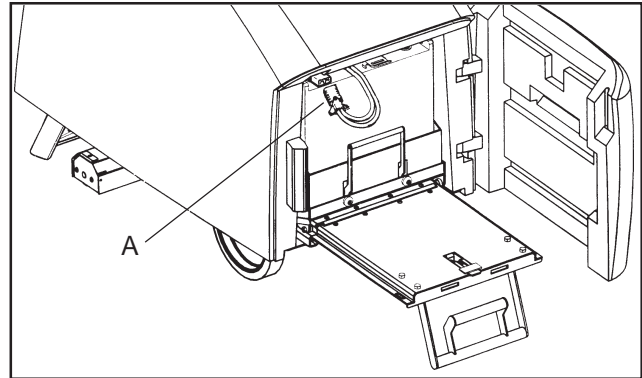

Figure 13
3. Disconnect the battery pack connector from the control housing connector. See figure 13, A.